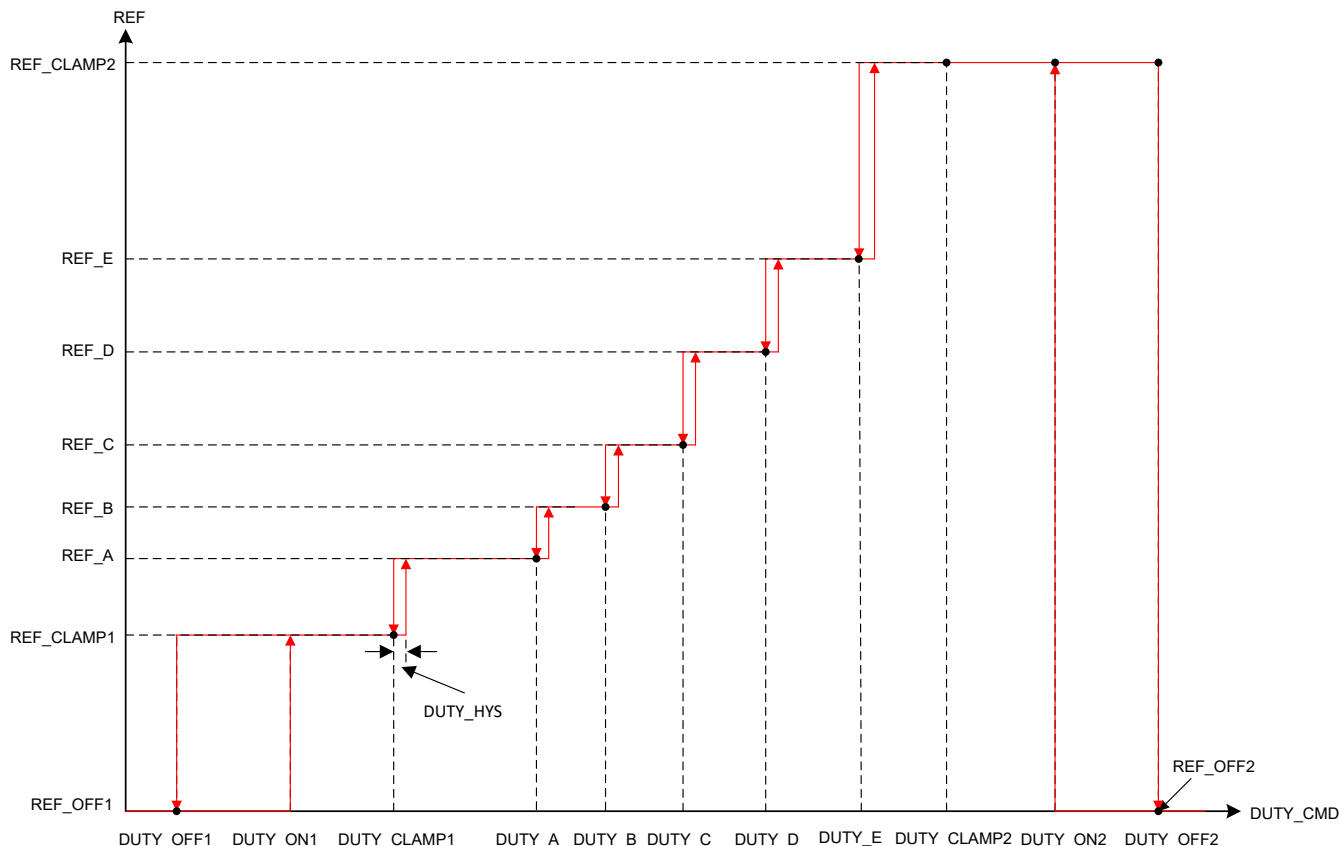

Figure 7-12. Staircase Control Profiles
- DUTY_OFF1 and DUTY_ON1 configures a hysteresis around reference control input REF_CLAMP1 and REF_OFF1 as shown in Figure 7-12.
- DUTY_A configures the duty command for reference REF_A. There is a step change in reference from REF_CLAMP1 to REF_A at DUTY_CLAMP1. DUTY_A to DUTY_E has to be in the same order as shown in Figure 7-12.
- DUTY_OFF2 and DUTY_ON2 configures a hysteresis around reference control input REF_CLAMP2 and REF_OFF2 as shown in Figure 7-12.